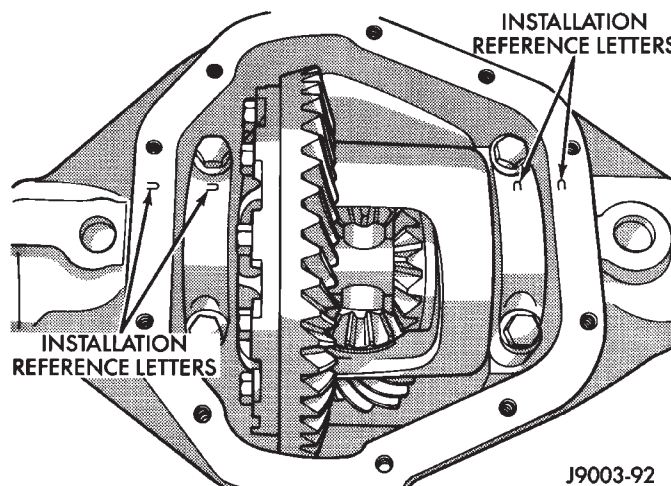
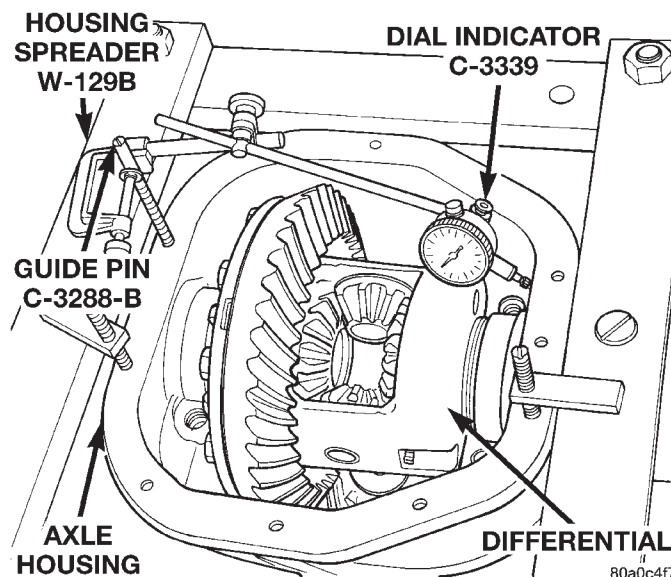

Fig. 16 Bearing Cap Identification
Fig. 17 Spread Differential Housing
(1) Note the installation reference letters stamped on the bearing caps and housing machined sealing surface (Fig. 16).
(2) Remove the differential bearing caps.
(3) Position Spreader W-129-B with the tool dowel pins seated in the locating holes (Fig. 17). Install the hold down clamps and tighten the tool turnbuckle finger-tight.
(4) Install a pilot stud at the left side of the differential housing. Attach Dial Indicator to housing pilot stud. Load the indicator plunger against the opposite side of the housing (Fig. 17) and zero the indicator.
(5) Separate the housing enough to remove the case from the housing. Measure the distance with the dial indicator (Fig. 17).
(6) Remove the dial indicator.
(1) Position Spreader W-129-B with the tool dowel pins seated in the locating holes (Fig. 17). Install the hold down clamps and tighten the tool turnbuckle finger-tight.
(2) Install a pilot stud at the left side of the differential housing. Attach Dial Indicator to housing pilot stud. Load the indicator plunger against the opposite side of the housing (Fig. 17) and zero the indicator.
(3) Separate the housing enough to install the case in the housing. Measure the distance with the dial indicator (Fig. 17).
(4) Remove the dial indicator.
(5) Install differential and outboard shim/spacer (selected thickness) in housing.